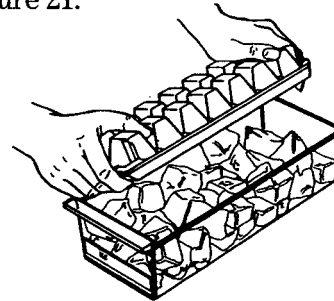

Figure 21.
- b. Twist in opposite directions until ice pops out. See Figure 21.